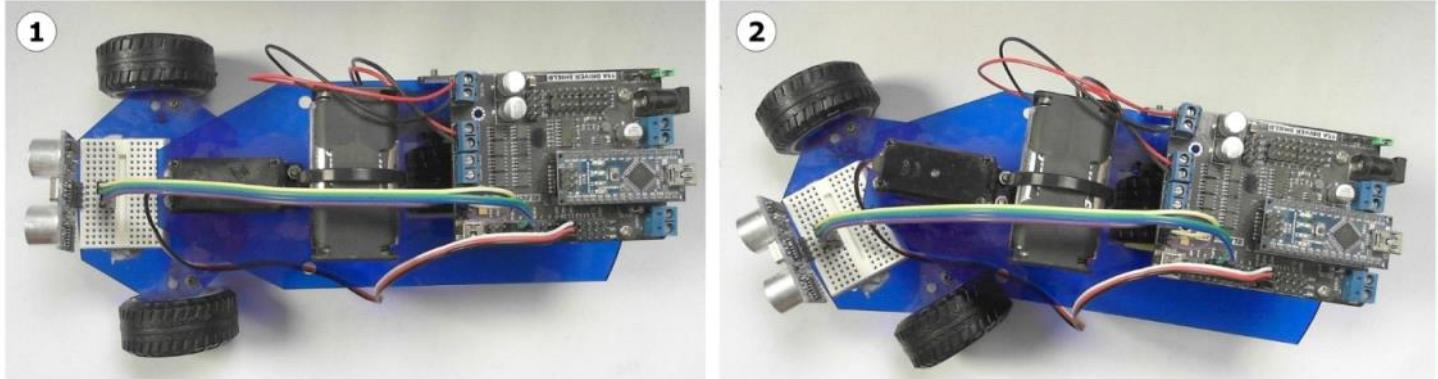

Figure 7.3 – Wagon-style steering Unotron robot
- A good example of wagon-style steering is the Unotron robot, shown here in *Figure 7.3*. This was built by my son from the Unotron chassis by 4tronix, with an Arduino Nano controller: